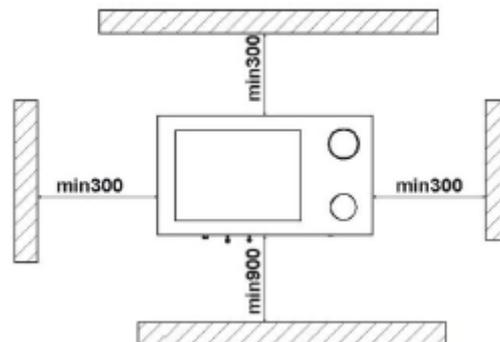

Figure. 8
- the appliances and the stove-pipes should be placed away from combustible objects and structures at distances not less than those specified in the scheme of **Figure. 8**;